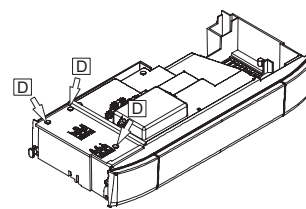

Figure 12.4
- Loosen screws D and remove the service panel (Fig. 12.4)